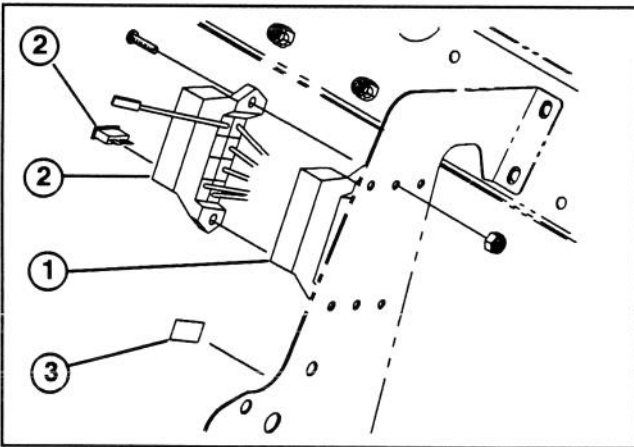

Figure 3
12. Route harness toward the left, then downward following vehicle wire harness. Secure harness to vehicle wire harness with (2) cable ties.
15. Remove screws securing vehicle fuse block to frame (Fig. 3).
16. Slide new fuse block assembly onto front of existing vehicle fuse block (Fig. 3).
17. Mount both fuse blocks to vehicle frame with fasteners previously remove and (2) new screws and lock-nuts (Fig. 3).
18. Affix electric clutch 20 Amp decal to any unused circuit on vehicle fuse block decal (Fig. 3).
36. Insert 20 Amp fuse into fuse block at location shown on decal (Fig. 3).